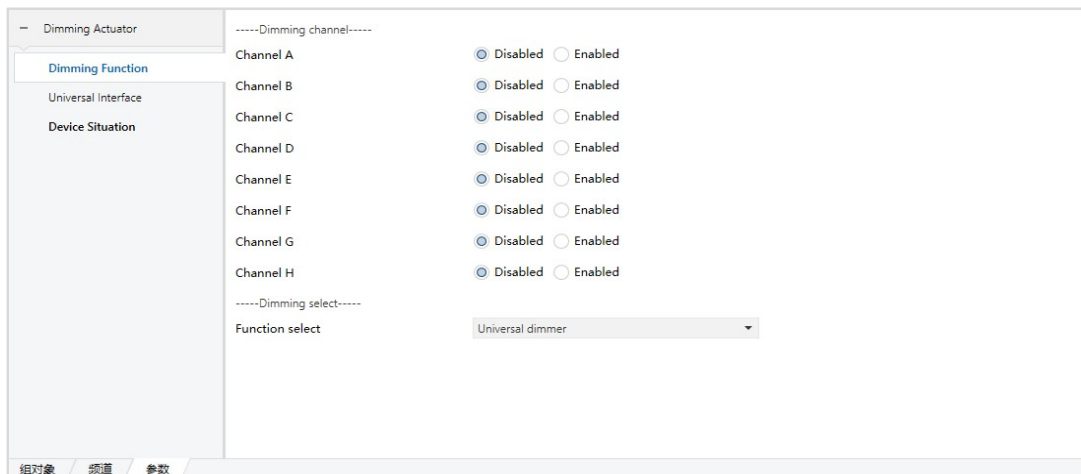

Figure 6.1.1
1) Open the dimming actuator (0-10V output) parameter setting interface in ETS5, as shown in Figure 6.1.1. The parameter "Function select" indicates the function output selection, the parameter "Channel X" indicates the output of the corresponding channel, and the parameter "Field control" indicates the field control function. When the "off" command is sent, the current brightness percentage of each channel is saved and the channel is closed; When the "on" command is sent, the last saved relay state is recalled. (Note: You cannot send the "off" command twice consecutively, because the current dimming state is saved when the "off" command is sent for the first time, but when the "off" command is sent for the second time, the first dimming state will be saved. The full off state when the "off" command is sent, overwriting the current dimming state saved for the first time).